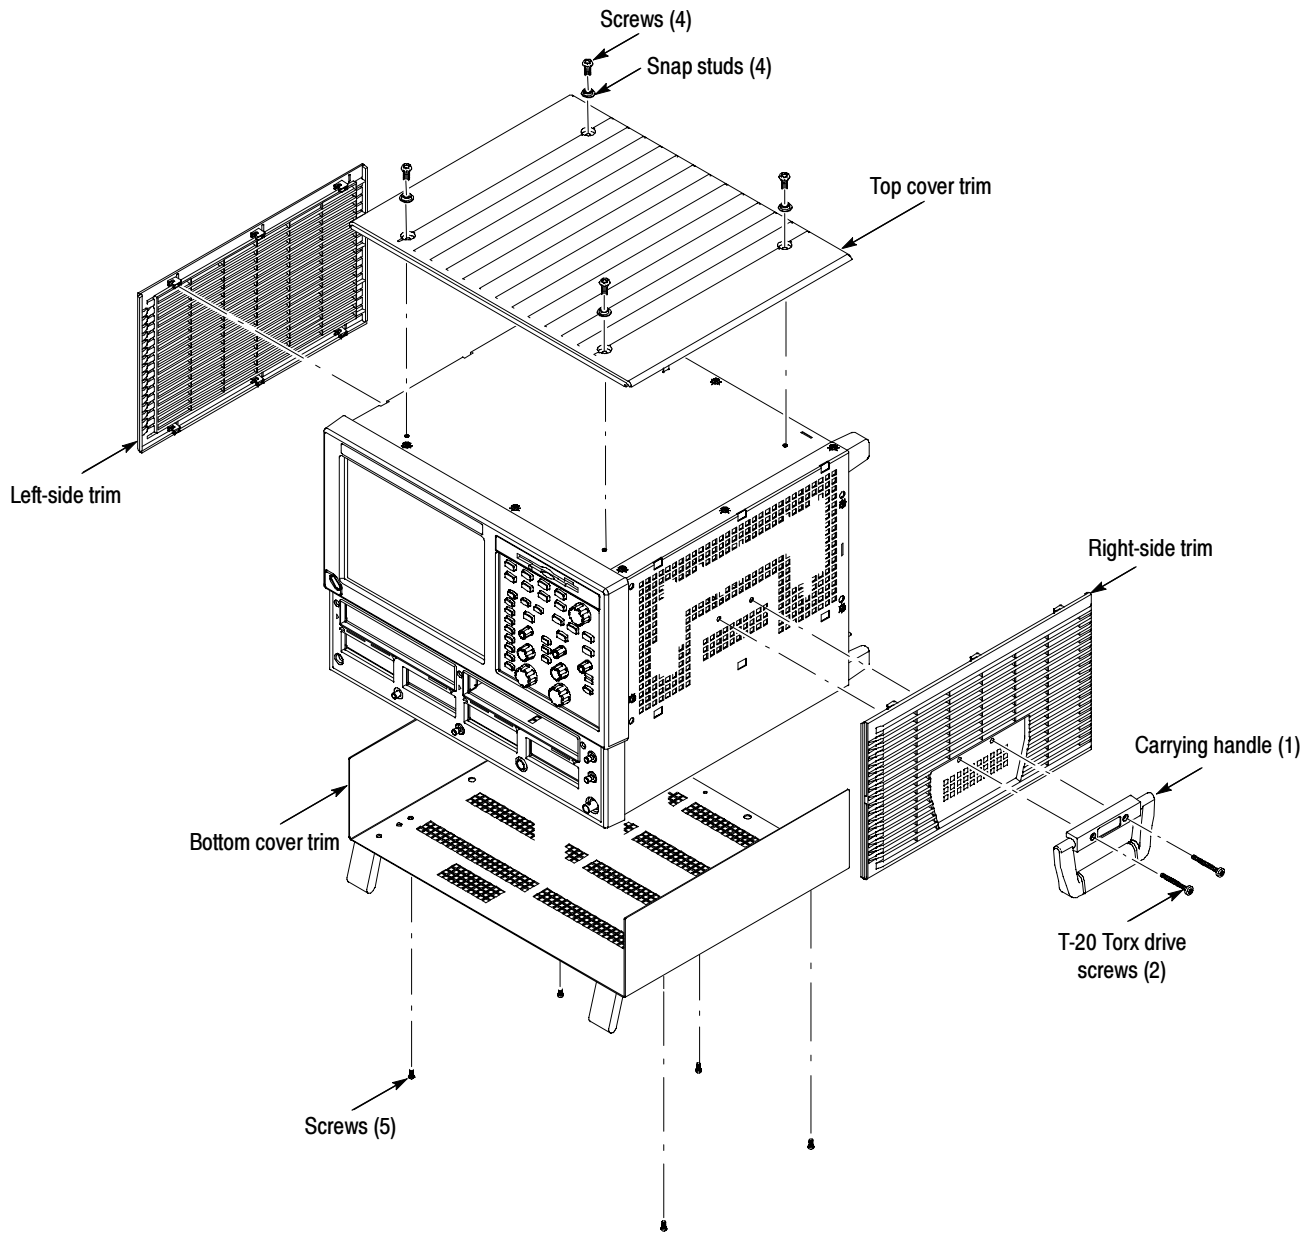
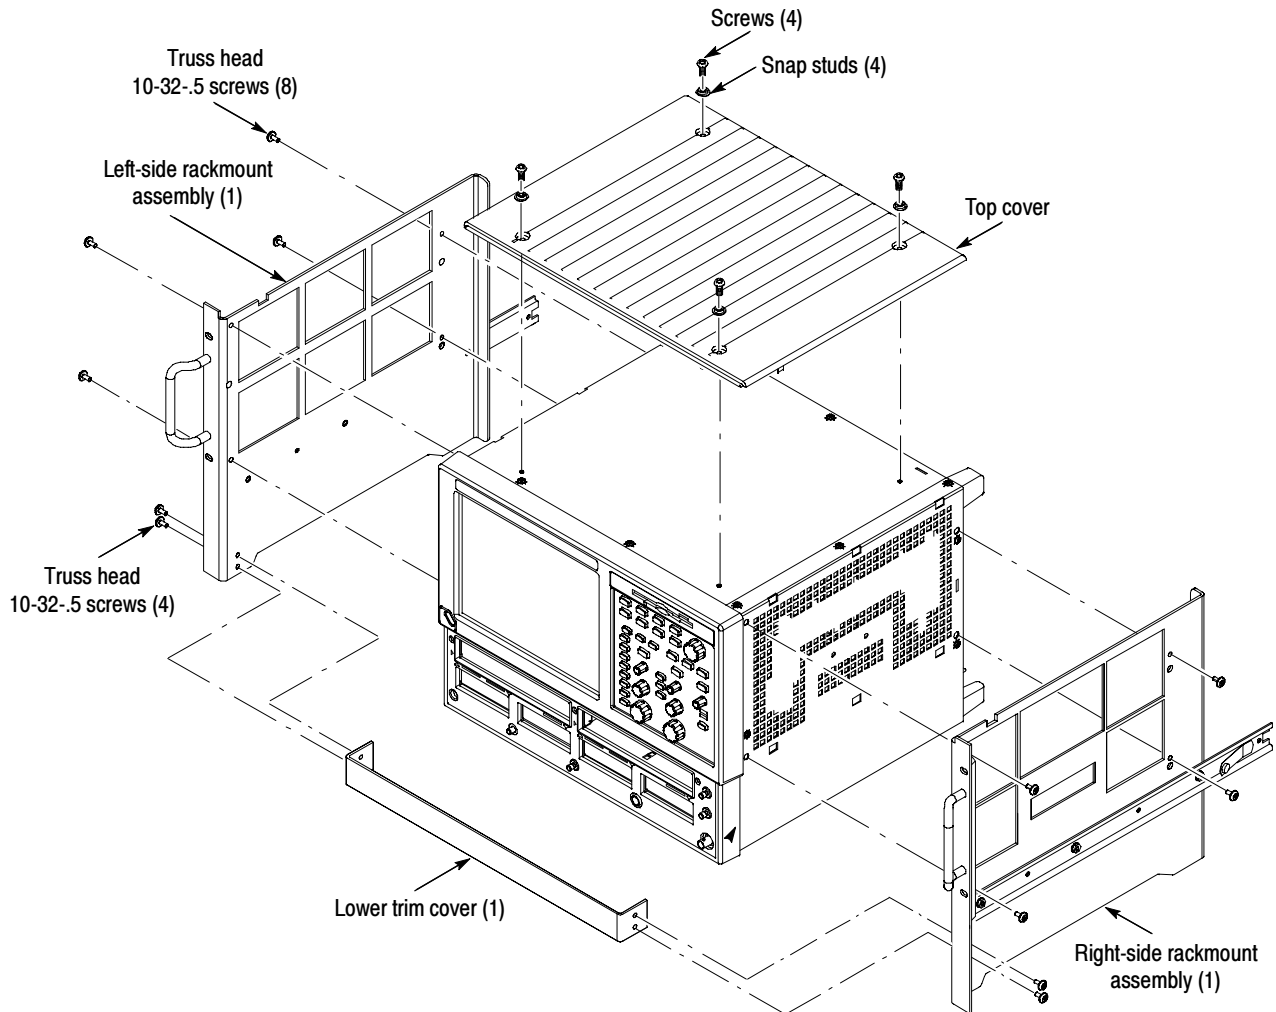

Figure 4: Removing instrument panels
Figure 6: Installation of rackmount assemblies
This procedure shows you how to prepare the instrument for rackmount panel attachment and how to attach the rack mount panels. See Figure 4 and Figure 6 for a visual guide through this procedure.
10. Install the right-side rackmount panel assembly to the right side of the instrument. Secure it by using the four 10-32 Truss-head Phillips screws, applying 28 inch-lbs of torque. Refer to Figure 6 on page 10.